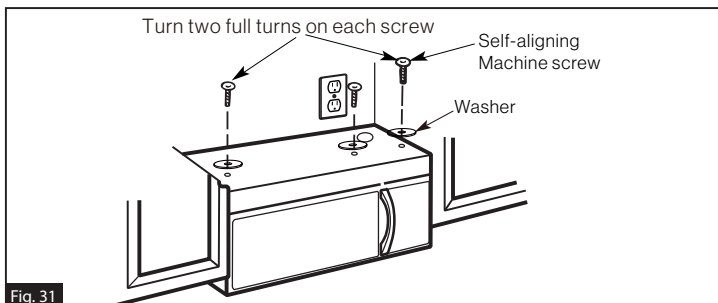

Fig. 31
2. Insert 2 self-aligning machine screws ($\frac{1}{4}$ "-20 x 3") through outer top cabinet holes. Temporarily secure the oven by turning the screw at least two full turns after the threads have engaged. (It will be completely tightened later.) Be sure to keep power cord tight. Be careful not to pinch the cord, especially when mounting flush to the bottom of cabinet. (Fig. 31)